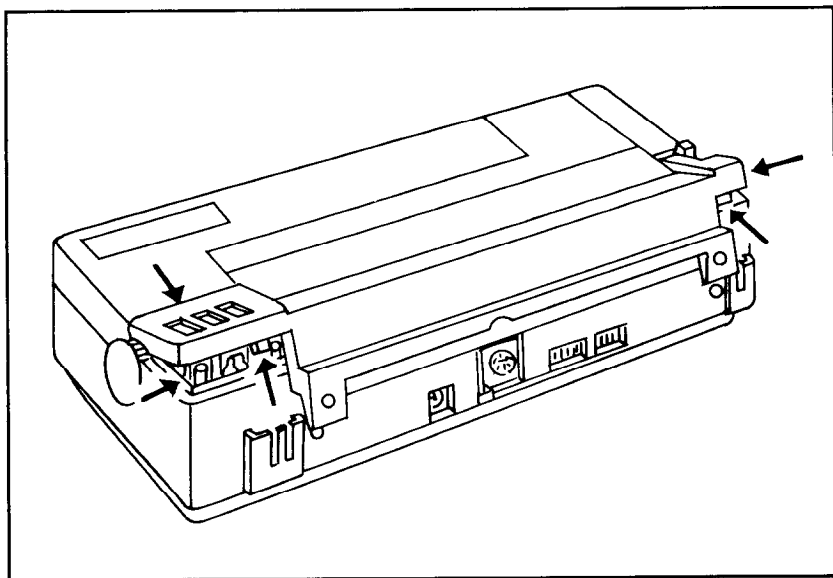

Figure 2-7. Replacing the battery holder cover
7. Push the battery holder cover back into place, at the back of the printer, seeing that the tabs on each side are inside the cover, and the switches and indicator light fit properly in their slots (Figure 2-7).